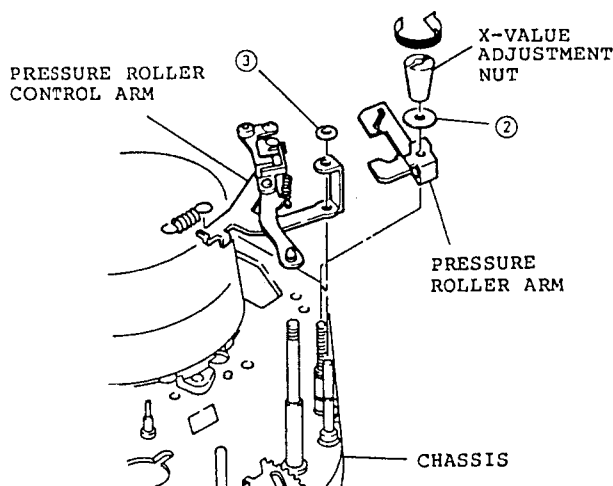

Fig. 2-94
1. Turn the X-value adjustment nut counterclockwise to remove it from the chassis. (See Fig. 2-94)
2. Remove one (1) washer holding the pressure roller arm.
3. Remove one (1) washer holding the pressure roller control arm.